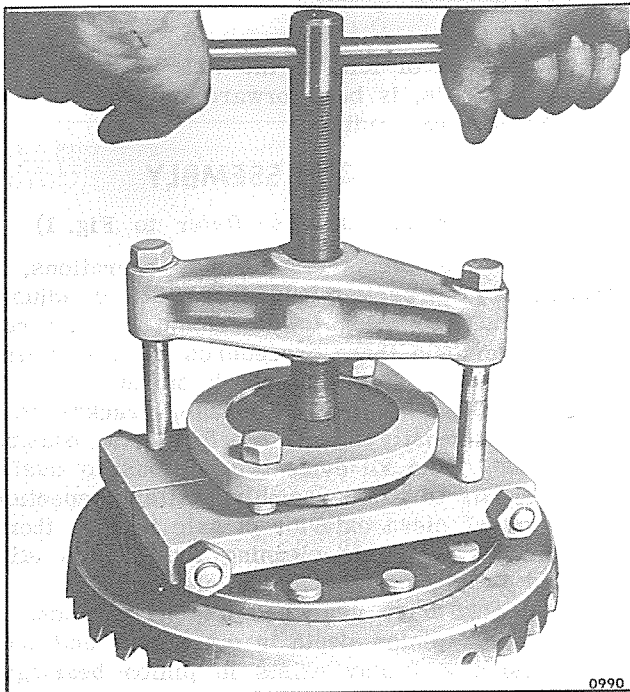

Figure 2—Removal of Differential Side Bearings
1. Use CS-1047 puller (fig. 2) to remove bearing cones which are pressed on hubs. This